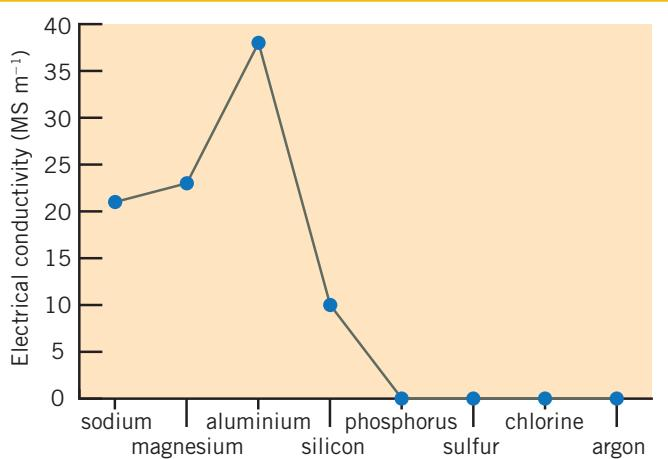

Figure 2.27 The trend in electrical conductivities of the period 3 elements
- 13** The trend in electrical conductivity of the period 3 elements, in their solid state, is shown in the graph in Figure 2.27. Explain this trend in terms of the bonding and structure of the elements.